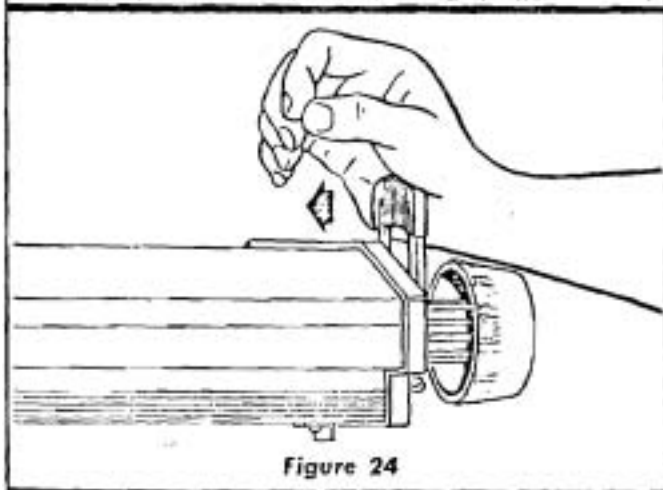
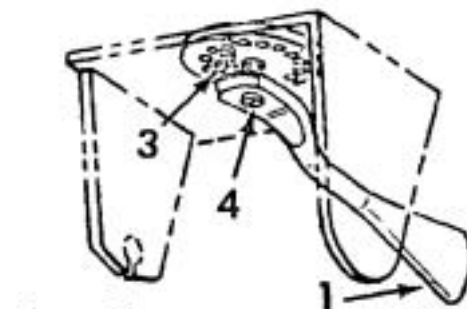

Figure 24
Figure 26
2. Move the radial arm into the index position (do not bump or jar it) and push on the handle (12) or arm latch lever (1) solidly with the **palm** of the hand. (See figure 24). This is very important as it insures proper seating of the arm lock pin in the arm latch, thus always returning the arm to the correct cross-cut (**0°**) position.
Experienced operators of precision equipment, such as this Craftsman Saw, normally acquire the habit of indexing the machine in one direction **only** whenever a new setting is made in **preparation** for a different **operation**. For **example**: When moving the radial arm to a new position, it is advisable to move it **slightly** past the desired index position then move it back slowly and carefully to latch and lock it. (See figure 24). Swivel indexing and bevel indexing can be accomplished in the same manner. This technique tends to neutralize any stresses imposed upon saw components and contributes to the high degree of accuracy this saw is capable of producing when operated expertly.
6. Remove the lock screw (3, figure 26).
8. Make sure the hole in yoke clamp assembly (2, figure 24) lines up with lock screw hole and install and tighten lock screw (3, figure 26)